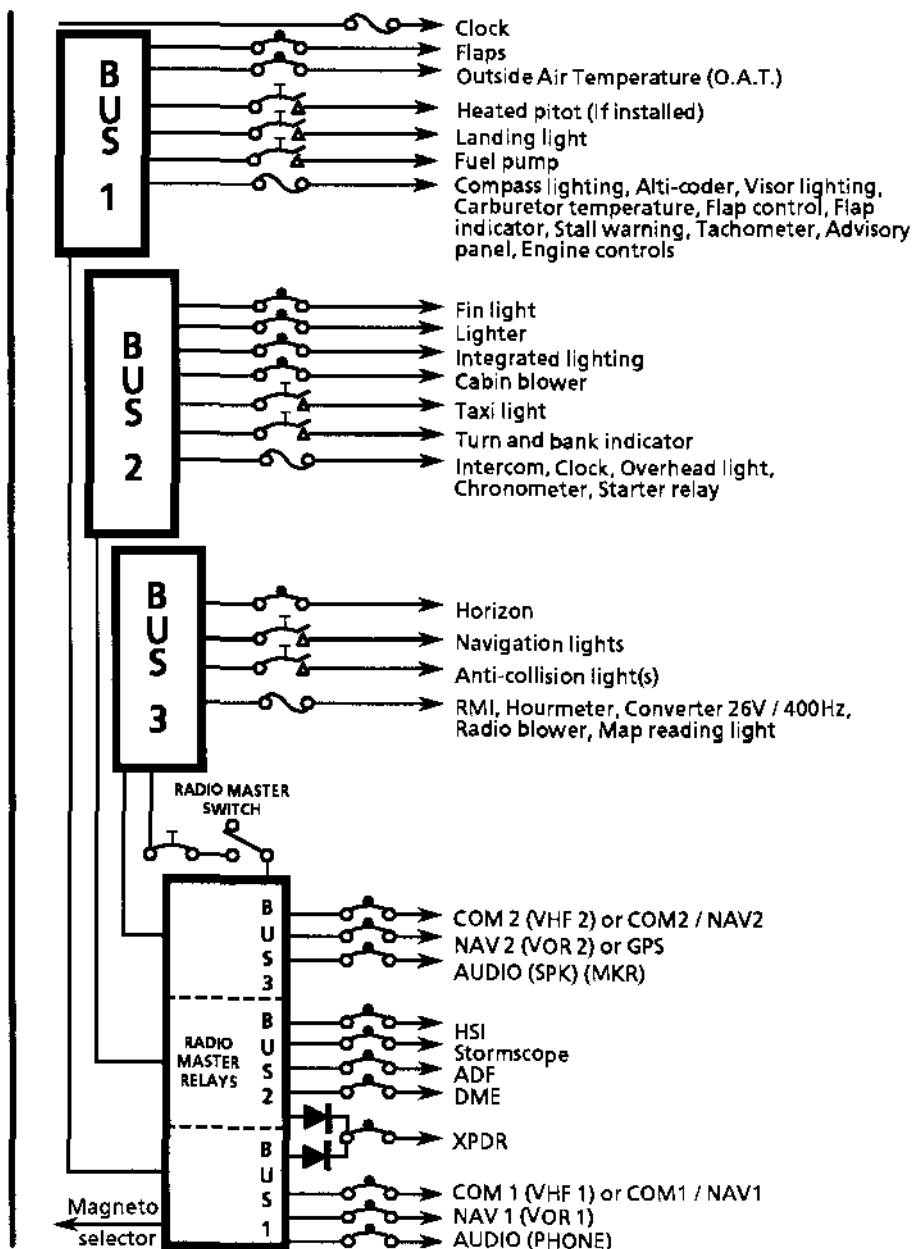

Figure 9.2.2 - POWER DISTRIBUTION IN VFR
- After a few moments reset "pull-off" type circuit-breakers in the numerical order with a delay between each operation for observation. Disengage the faulty bus bar and disconnect all the equipment supplied by the latter. See Figure 9.2.2.